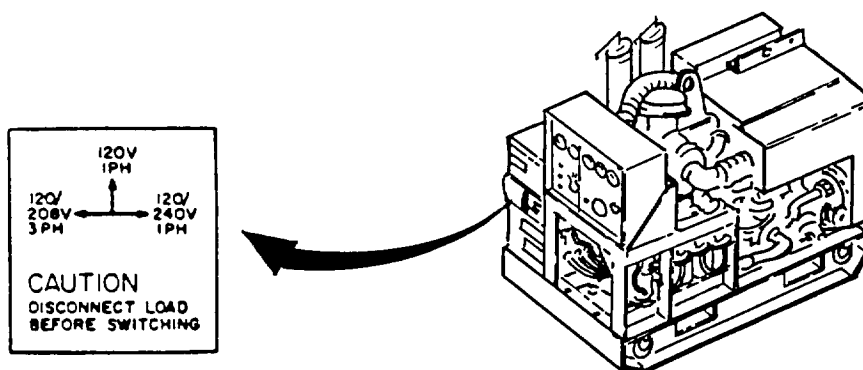

Figure 2-3. Reconnection Switch.
1. Switch position should be set for one of four positions. Refer to table 2-2 and figure 2-3.